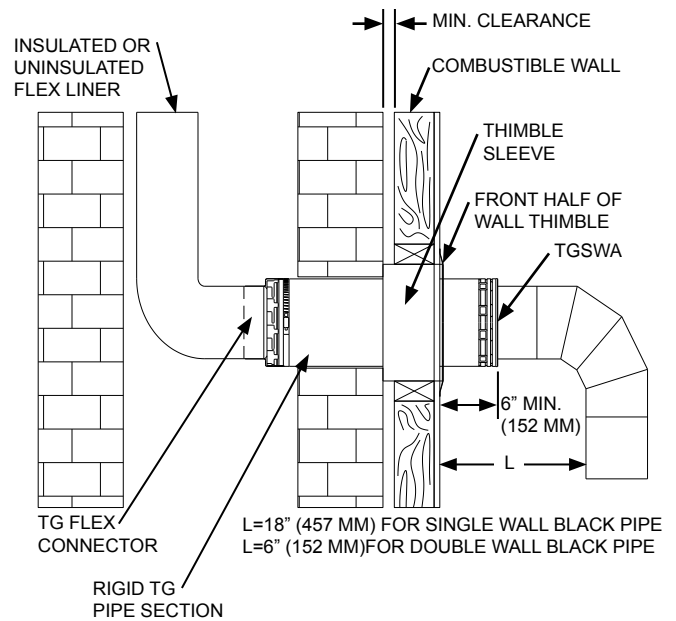

FIG. 13
Step 1: Solid-fuel appliances will require the use of TG Flex Connector, TG Wall thimble and a rigid section of TG Pipe (See **FIG 13**). For insulated flex liners, insulation must also cover the TG Flex Connector.
Step 4: Insert TG Flex Connector into rigid TG pipe (**be sure flow arrow is pointed in correct direction**). Secure connector to pipe by tightening hose clamp. The rigid TG pipe must extend out past the combustible wall a minimum of 6 inches (152 mm) as shown in **FIG 13**.
NOTES: Finish connection to appliance making sure to keep minimum clearance "L" inches (mm) as shown in **FIG. 13**.